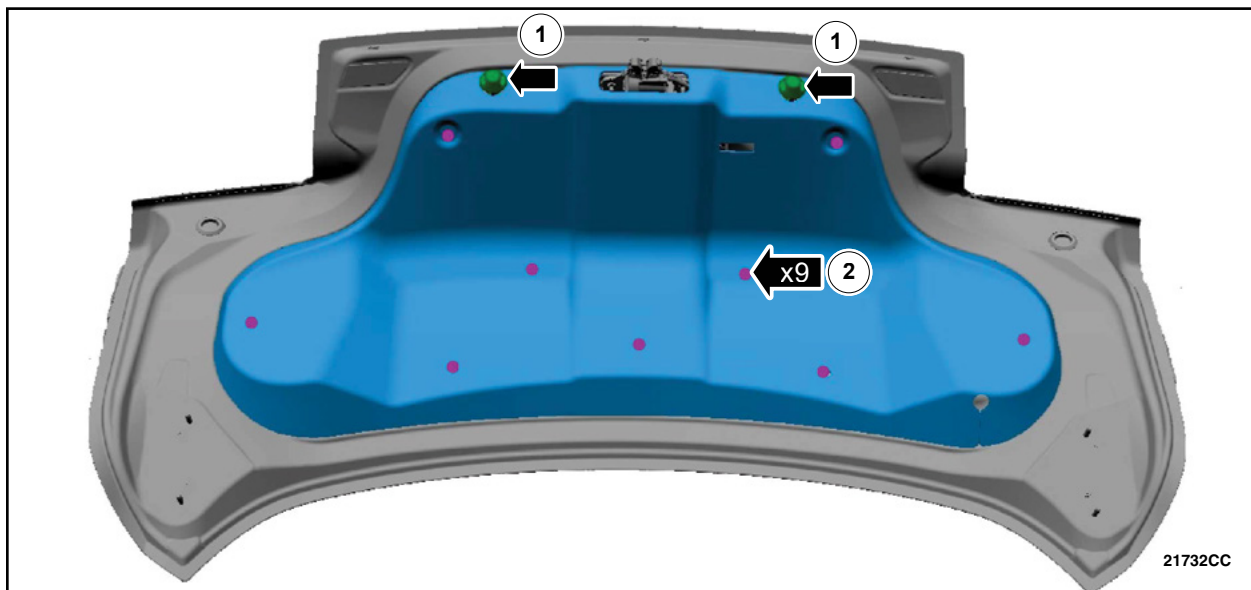

FIGURE 6
9. Remove the luggage compartment lid trim panel. See Figure 6.